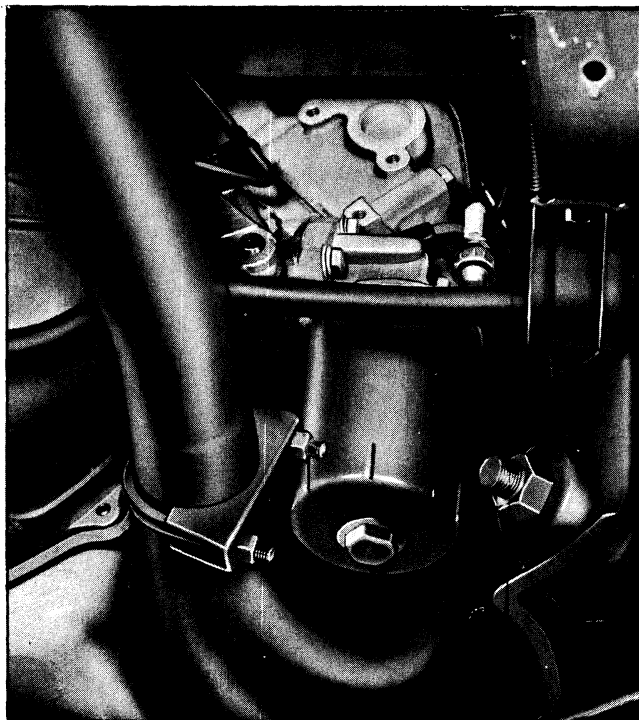

Fig. 6A-13 Filter Cartridge Installed
4. Hand tighten filter on hollow center stud until gasket contacts filter base (Fig. 6A-13) then complete tightening with additional $\frac{3}{4}$ turn of filter but DO